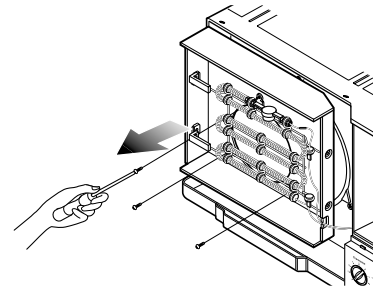

Figure 20
4. Remove the 2 terminals carefully(See Fig. 20).
5. Remove the 3 screws which fasten the Heater Cover. (See Fig. 20)
6. Remove the Heater Cover.(See Fig. 20)